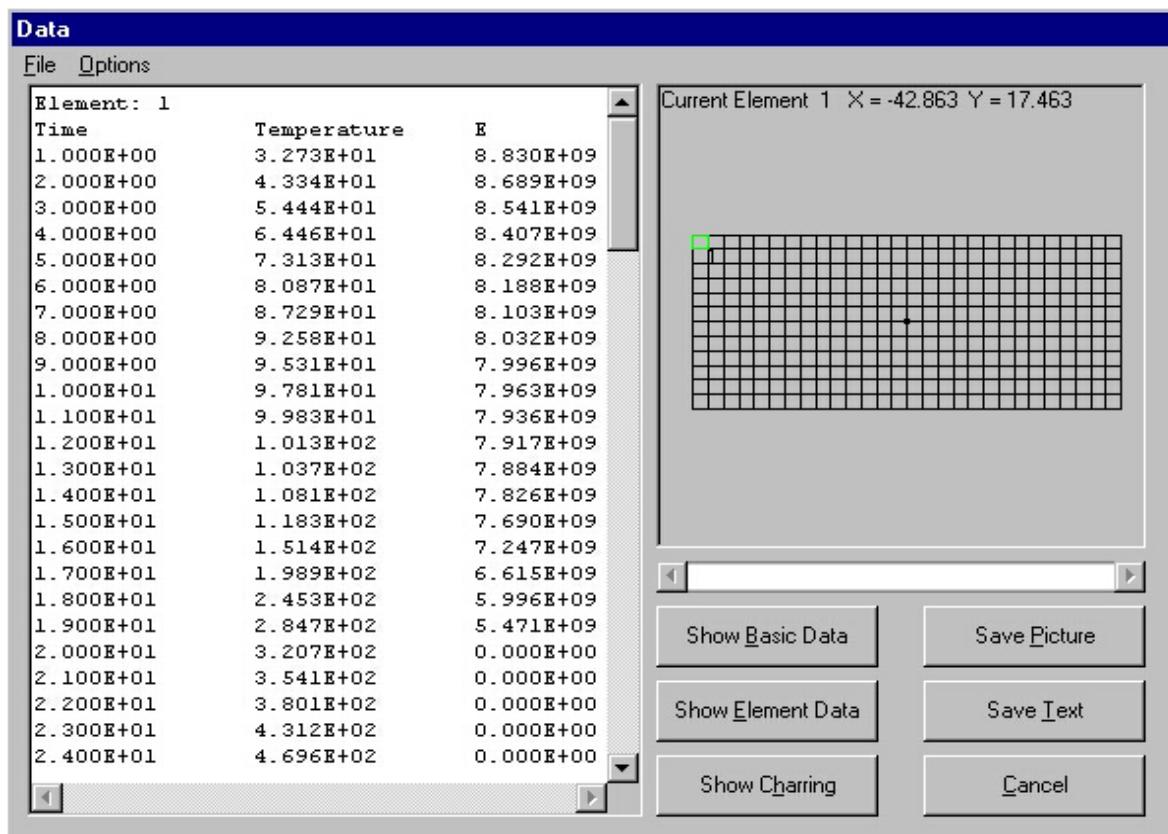

Figure 3.44. Show Element Data (Element 1)
In addition, the coordinates of the element centroid will be displayed above the picture of the wood stud, once an element has been selected (Figure 3.44). The data displayed consists of the element number, the temperature and modulus of elasticity of the element (E) at one minute time intervals.